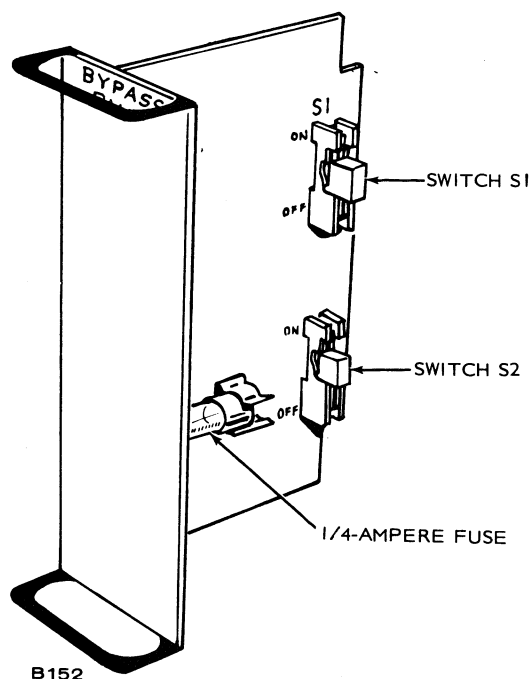

FIGURE 40. BYPASS PLUG MODULE
8. Spec A only: Set switches S1 and S2 on the bypass module 300-0927 to the correct position (instructions on bypass module printed circuit board) for the particular bypass and insert the module. See Figure 40.